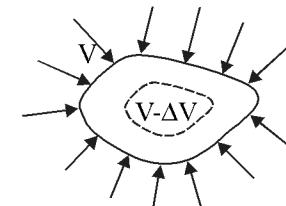

Fig. 5.3
2. Volumetric stress: When the same pressure or force per unit area is acting at each point of the body normally then force per unit area is called volumetric stress or also called pressure. When pressure on a body is increased from P to $(P + \Delta P)$ the volume of the body decreases from V to $(V - \Delta V)$ as shown in (Fig.5.3). Change in pressure ΔP is the force per unit area due to which volume of the body changes.